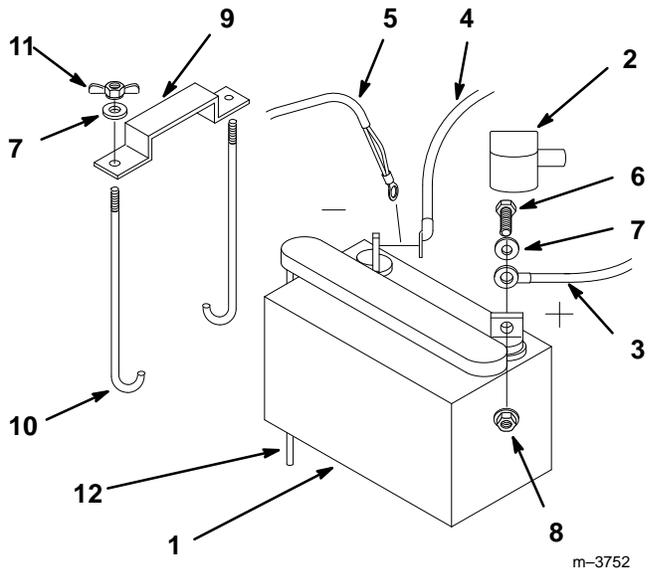

Figure 7
6. Position battery in tray with terminal posts toward the engine (Fig. 7).
9. Secure cables with (2) 1/4 x 3/4" (19 mm) bolts 1/4" washers and 1/4" locknuts (Fig. 7).
10. Secure battery with J-bolts, hold down clamp and (2) 1/4" washers and (2) 1/4" wing nuts (Fig. 7).